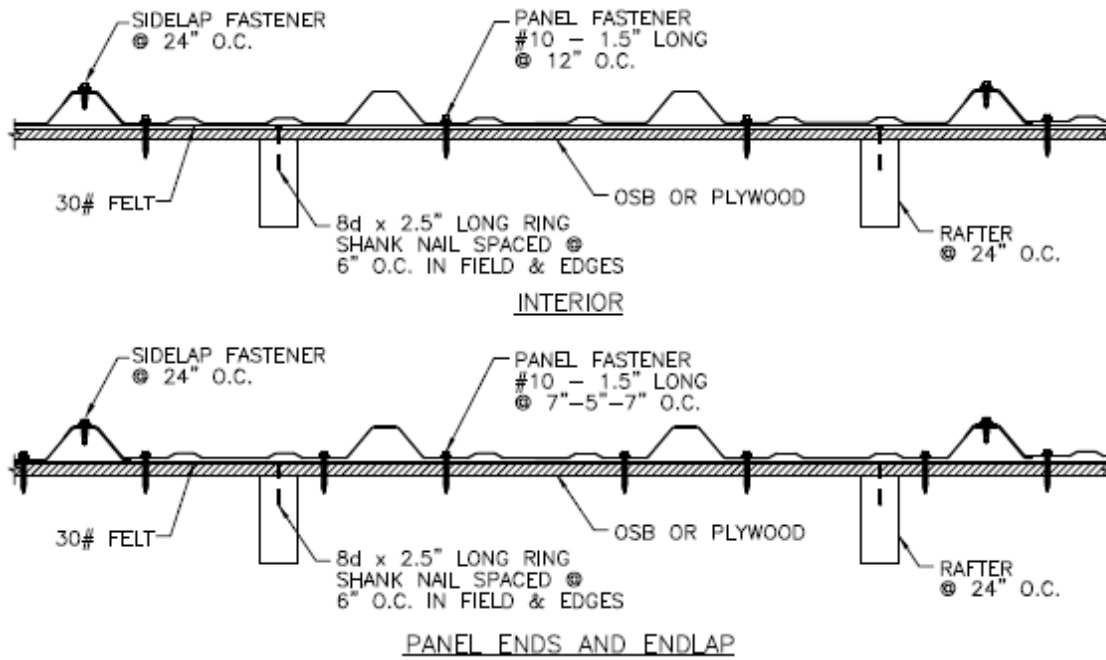
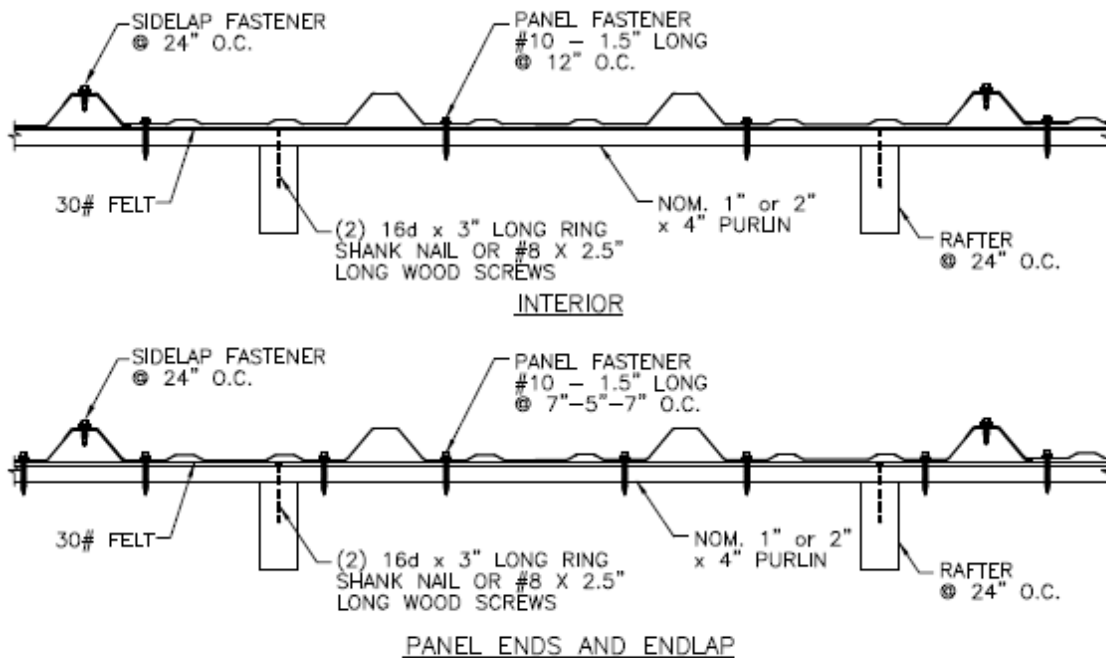

FIGURE 1
FIGURE 2
- **Steel Roofing Panels to OSB OR Plywood Deck:** Minimum #10-16 1-1/2" Kwikseal MB Woodbinder screws, manufactured by Sealtite. The fasteners must be long enough to ensure a minimum penetration of 1/4" below the wood deck. (Note: If the steel roofing panels are installed over existing roof covering, then the fastener length must be increased so that the fasteners are long enough to have a minimum penetration of 1/4" below the existing roof deck). The required fastener pattern must be as specified in Tables 1 & 2. An illustration of the fastener pattern is shown in Figure 1.
- **Steel Roofing Panels to Nominal 1" x 4" or 2" x 4" Purlins:** Minimum #10-16 X 1-1/2" Kwikseal MB Woodbinder screws, manufactured by Sealtite. The required fastener pattern must be as specified in Table 3. An illustration of the fastener pattern is shown in Figure 2.
Panel Ends and End Laps: Minimum No. 10-16 x 1-1/2" Kwikseal MB Woodbinder screws manufactured by Sealtite. Refer to Figure 1 and Figure 2. For solid wood decks, the fasteners must be long enough to ensure a minimum penetration of 1/4" below the wood deck. (Note if the steel roofing panels are installed over an existing roof covering, then the fastener length must be increased so that the fasteners are long enough to have a minimum penetration of 1/4" below the existing roof deck.)